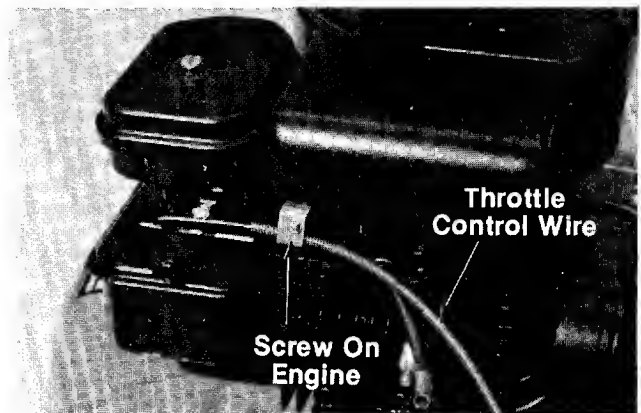

FIGURE 19.
1. Loosen, but do not remove, the screw securing throttle control wire assembly at engine. See figure 19.